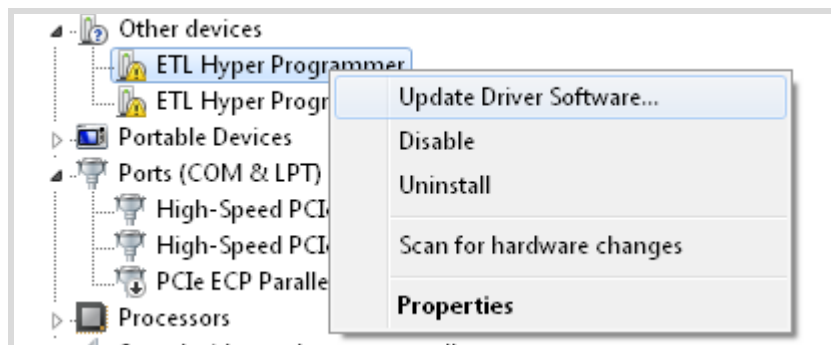

Figure 5. The "Update Driver Software" menu item selection
- Right Click on the first "ETL HyperF Programmer" device and then select "Update Driver Software" menu item.(Figure 5).
- Right click on the first "ETL Hyper Programmer" device and then select the "Update Driver Software" menu item.(Figure 5).